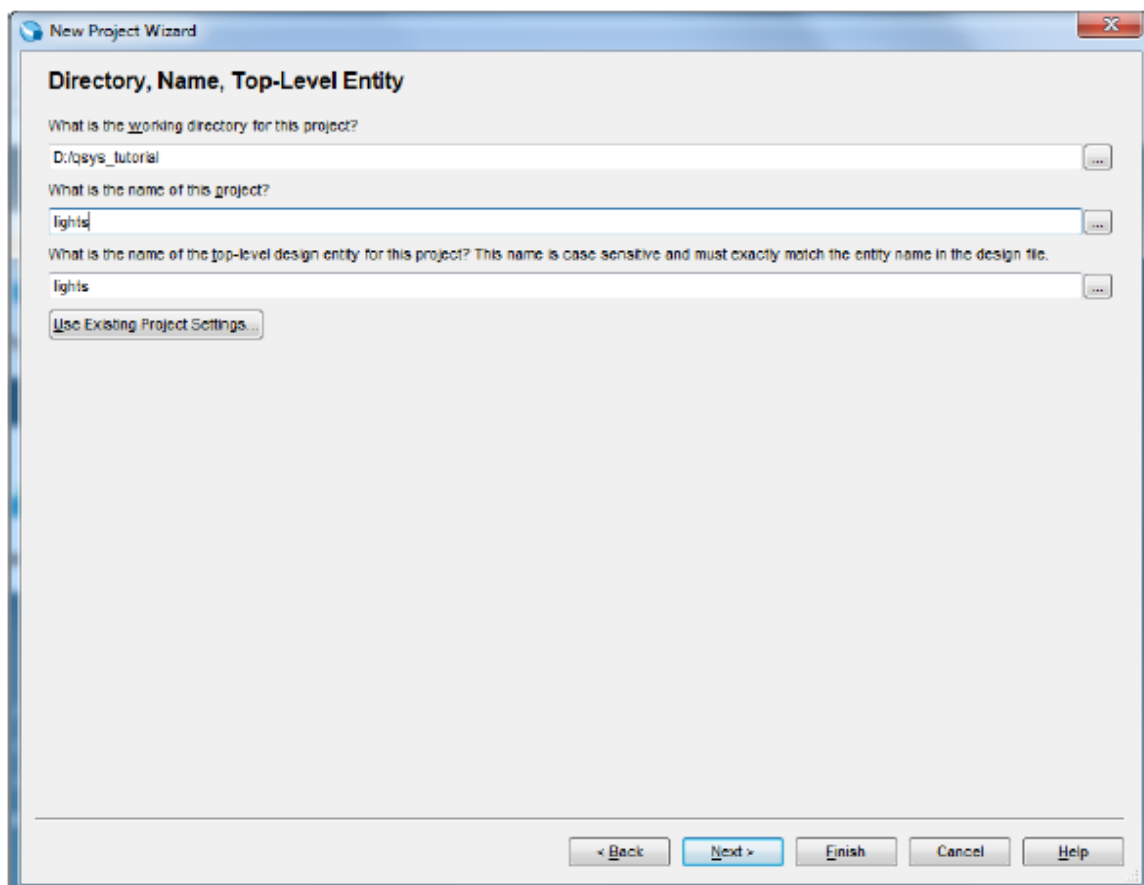

Figure 3 Create a new project
1. Create a new Quartus Prime project for your system. As shown in Figure 3, we stored our project in a directory called *qsys\_tutorial*, and we assigned the name *lights* to both the project and its top-level design entity. You can choose a different directory or project name. Step through the screen for adding design files to the project; we will add the required files later in the tutorial. In your project, choose the FPGA device used on the DE1-SoC board, namely **Cyclone V SoC 5CSEMA5F31C6**.